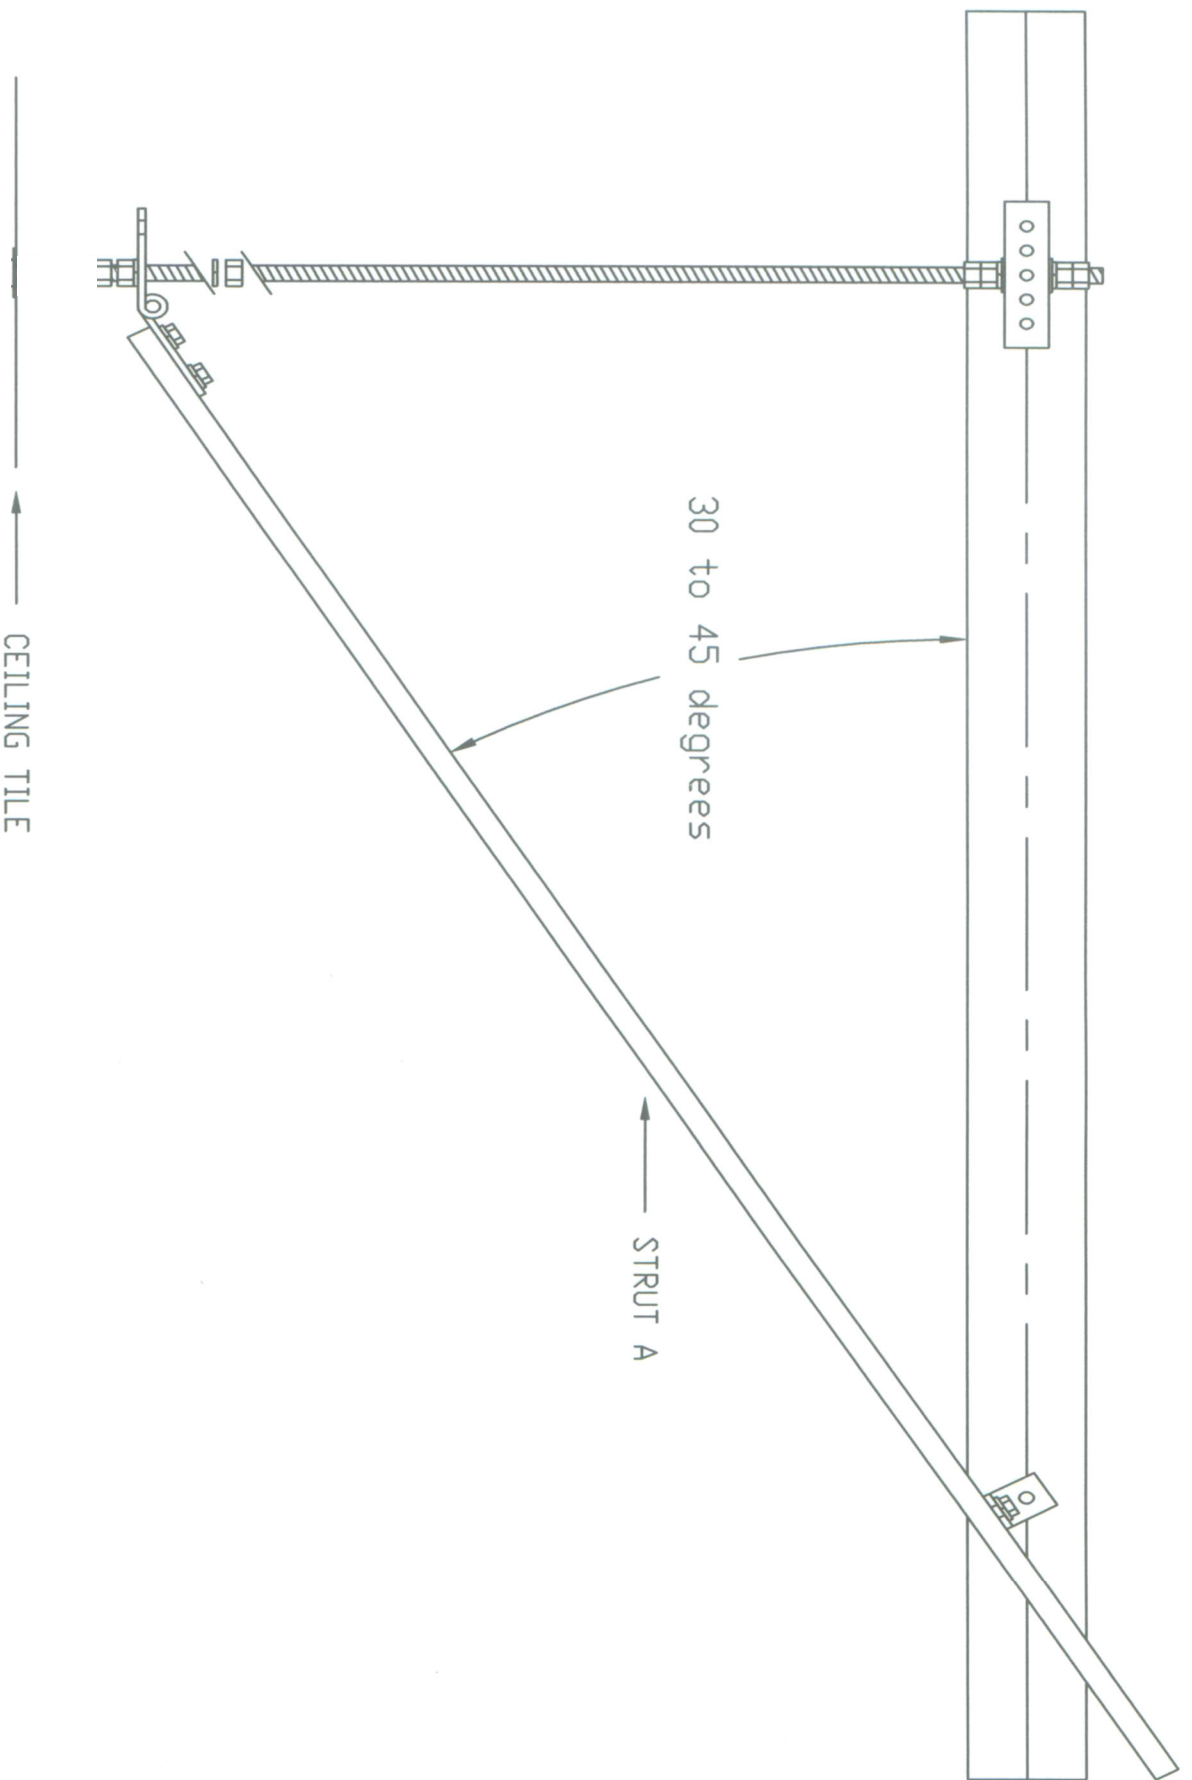

Figure 2
- Position the tube against the joist where you want the suspension point ***making sure that it is level and centered on the joist*** (see fig. 2). Mark the outside holes on each end of the tube on the joist. Remove the tube and drill a 3/8" hole through the joist at each mark. Put a 3/8" flat washer on each of the two 3/8" x 4" bolts. Put the bolts through the holes in the tube then through the drilled holes pushing the tube against the joist. Put a 3/8" fender washer then a 3/8" lock washer on the threaded ends of each bolt. Start a 3/8" nut on each bolt and tighten securely. Tighten the nuts